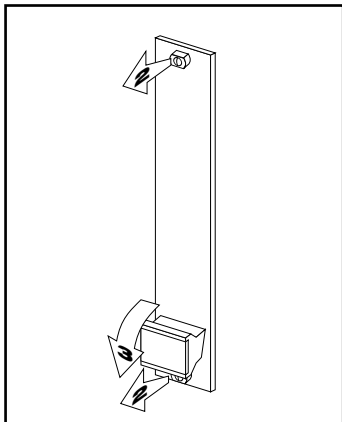

Figure 5-4. Removing a board.
3. Push the knob down to loosen the connector at the back of the board. See figure 5-4.